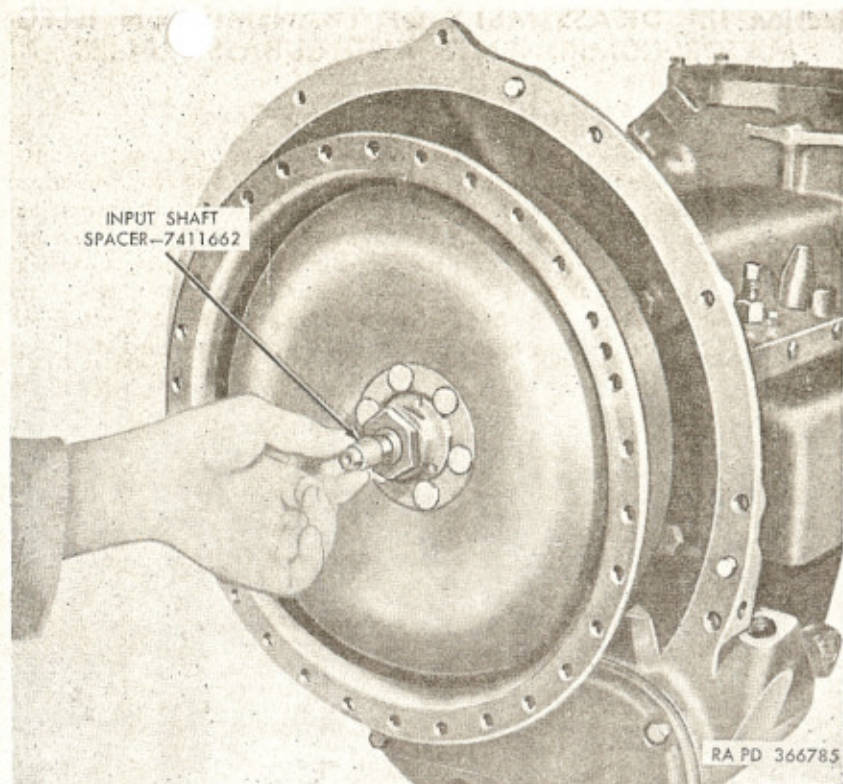

Figure 14. Removing or installing input shaft spacer.
- Remove input shaft spacer (A) from end of input shaft (fig. 14).